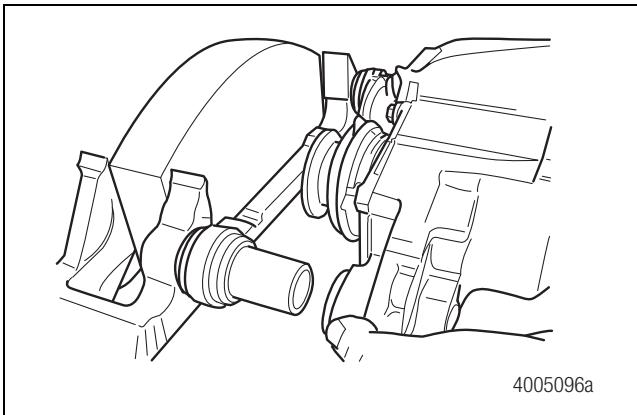

Figure 6.53
2. Carefully slide the housing assembly onto the slide pins. Be careful not to damage the slide pin boots when you install the housing assembly onto the slide pins. Figure 6.53.